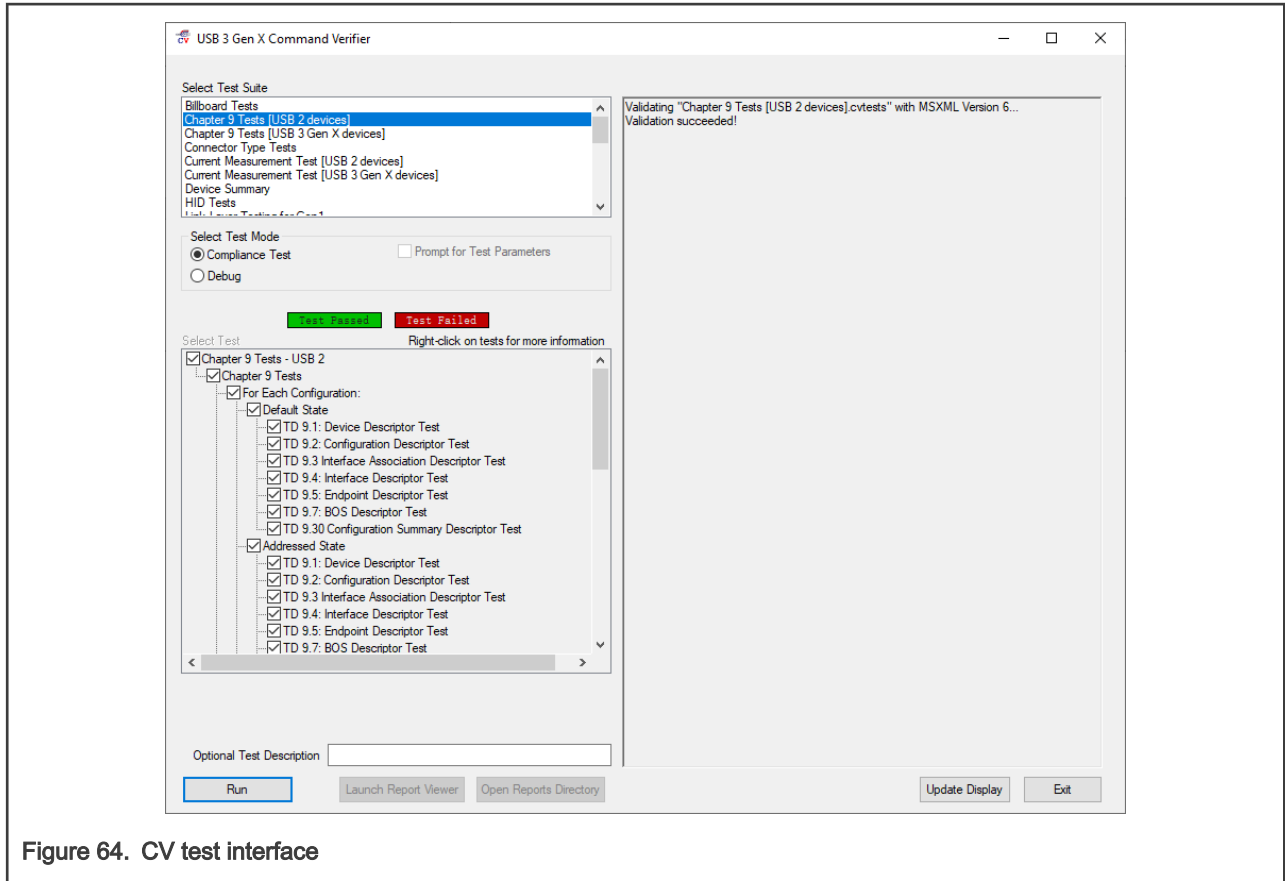

Figure 64. CV test interface
1. Connect the device under test to the test bed computer, open the USBCV software, and let the software control the USB controller of the computer. All standard peripherals on your computer such as mouse and u-disk are invalid at this moment. Figure 64 shows the interface of the USBCV software.